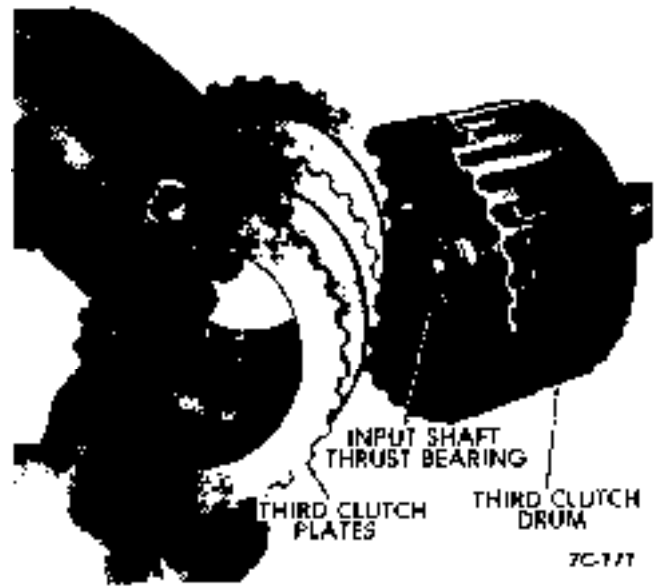

Figure 7C-171
3. Push sprag assembly and retaining rings from sprag race and retainer. See Figure 7C-170.